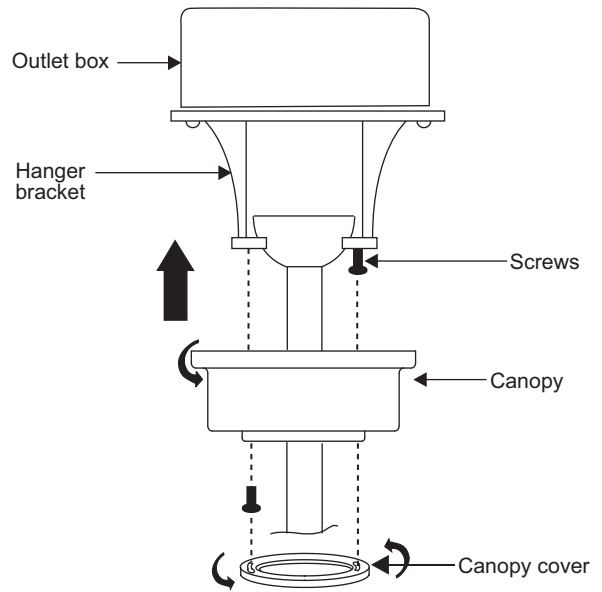

Figure 13
Note: Adjust the canopy screws as necessary until the canopy and canopy cover are snug. (Fig. 13)
Step 1. Attach blades to blade brackets using three screws and rubber washers. (Fig. 13) Start a screw into the blade bracket, do not tighten. Repeat for the 2 remaining screws and washers.